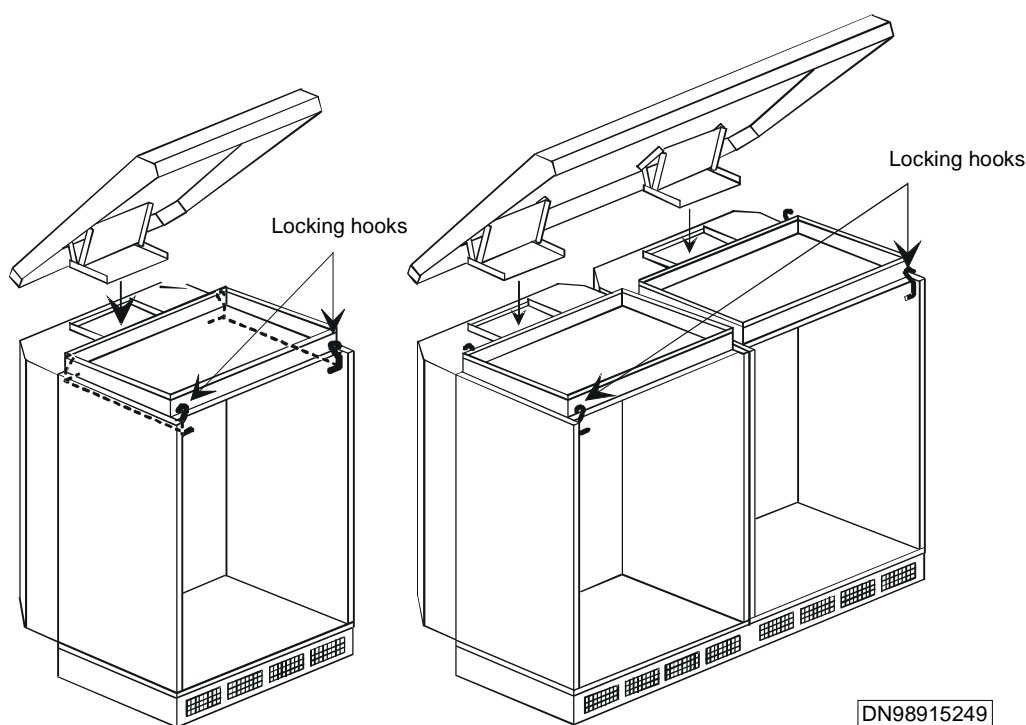

Figure 29 Installing the cabinet roof
1. Lift the roof on to the top of the cabinet, with the roof locking plate at the rear as shown in Figure 29.